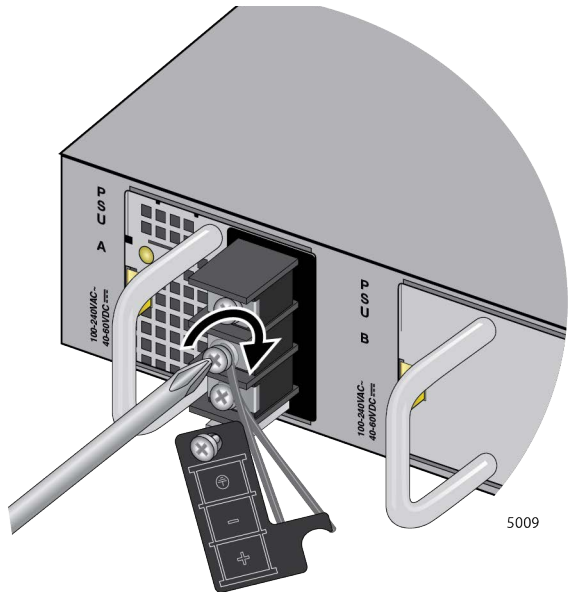

Figure 69. Tightening the Screw for the Negative (-)
4. Wind the power wire and tighten the screw. Refer to Figure 69.